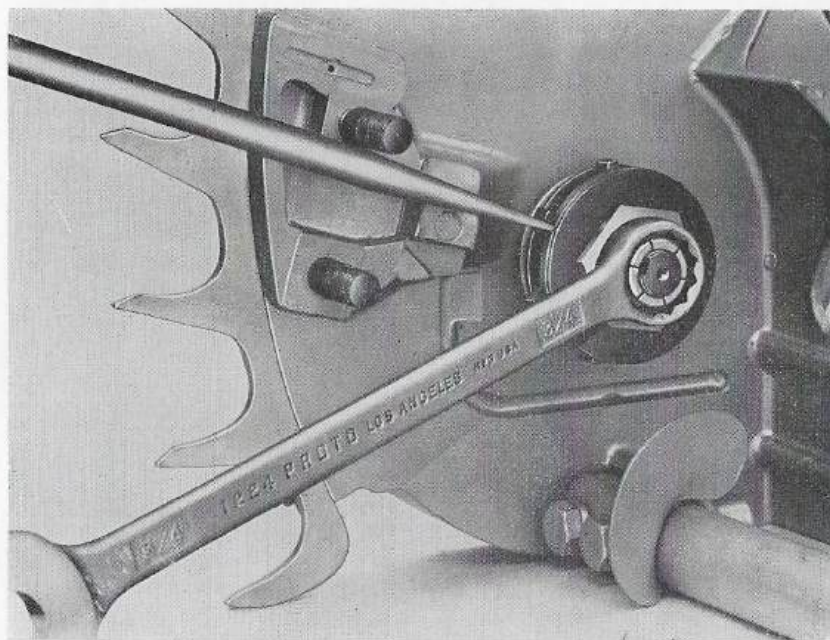

Figure 21—Blocking Chain Drive-Sprocket to Remove Locknut
(9) To remove chain drive sprocket, remove the $\frac{1}{2}$ -20 flex locknut holding sprocket to shaft. To prevent shaft from turning, block sprocket with screw driver against teeth as shown in Figure 21. With a soft mallet, tap on threaded